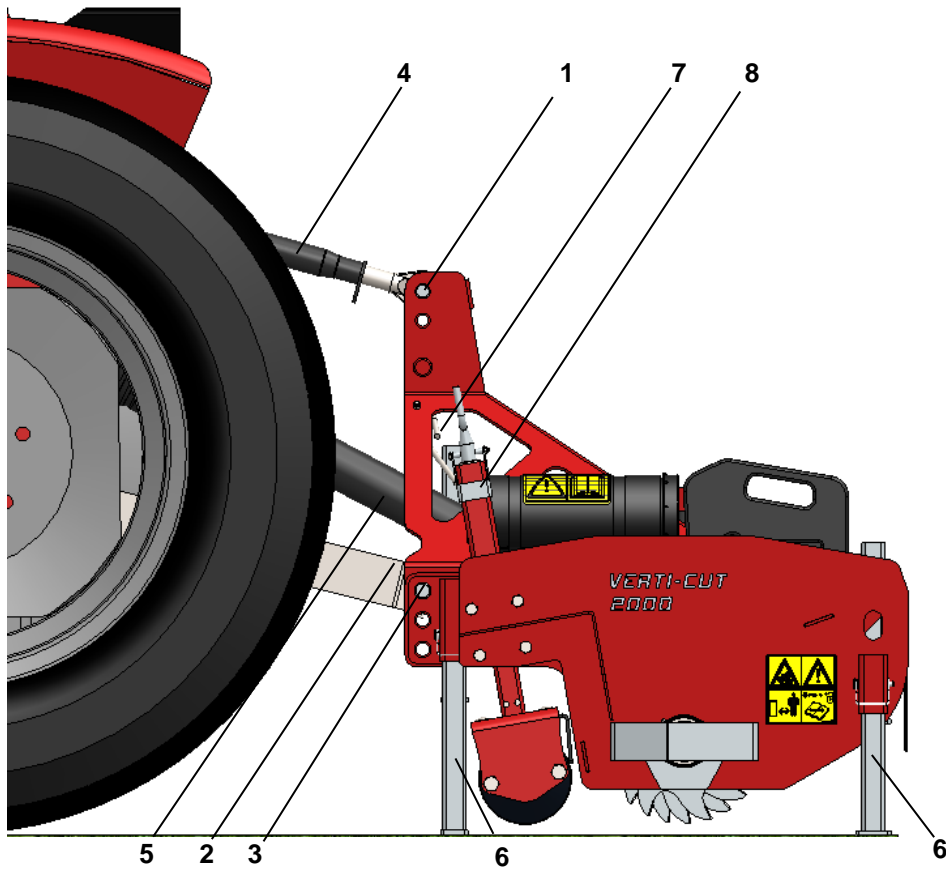

Figure 3
1. Remove the 3-point pins **(1)** at the top from the machine (see **Figure 3**).
The machine should be detached in the following manner (see **Figure 3**):
The machine's working depth is adjusted by turning the spindles **(8)** clockwise or counter-clockwise to the required level, which can be read on the ruler (see **Figure 3**). Set the spindles in such a way that the machine obtains a level working depth.